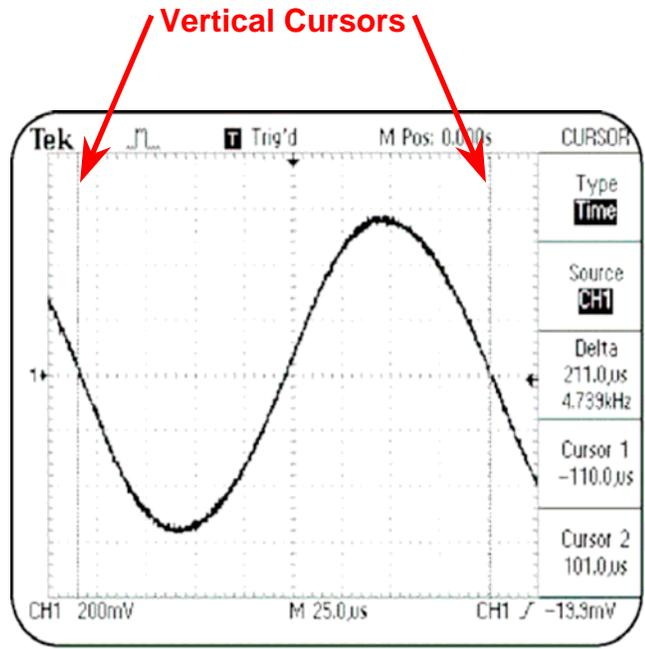

Figure 8: Time measurements using the cursors.
4. Use the **CURSOR 1** knob to place a cursor at the start of the time period to be measured, as shown in Figure 8.